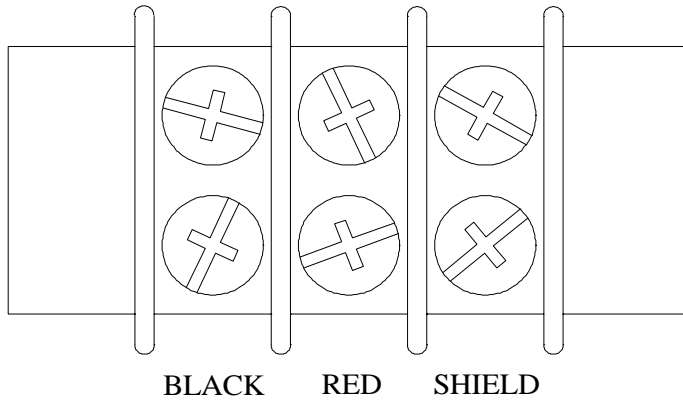

Figure 10 T1 WIRING DIAGRAM
3. Connect the control cable to terminal strip T1 (located to the left of the test jack S5) according to the diagram in figure 10.